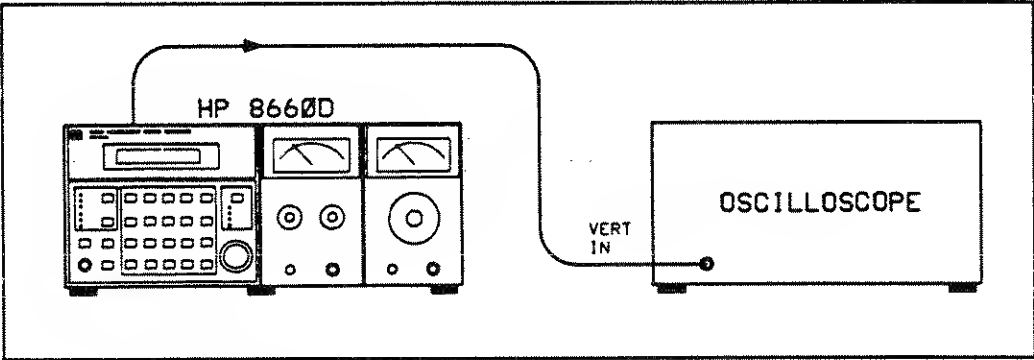

Figure 5-8. Oscilloscope Level Checks Test Setup
- a. Check the outputs listed in Table 5-8 for the levels shown (see Figure 5-8).